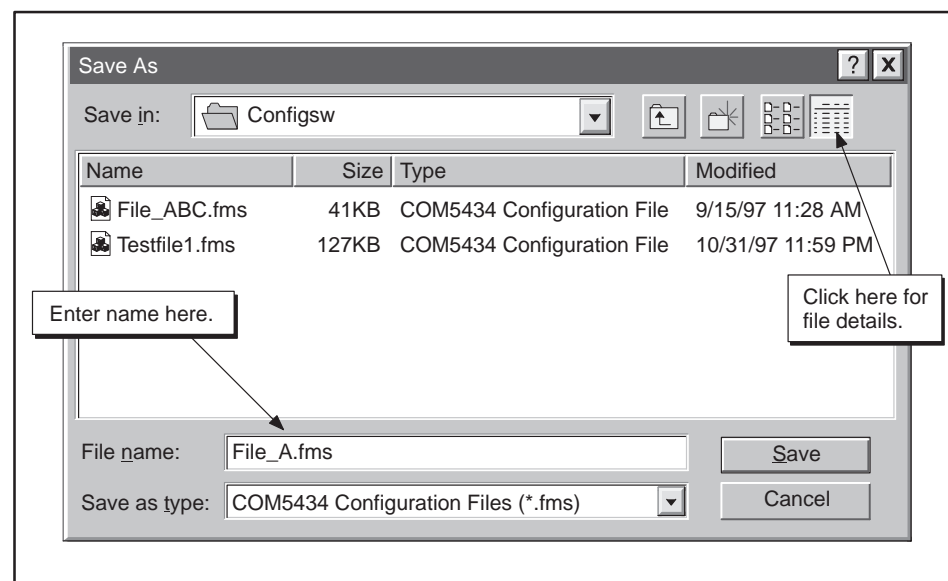

Figure 6-8 Save As Dialog
3. Enter a file name, as shown in Figure 6-8.